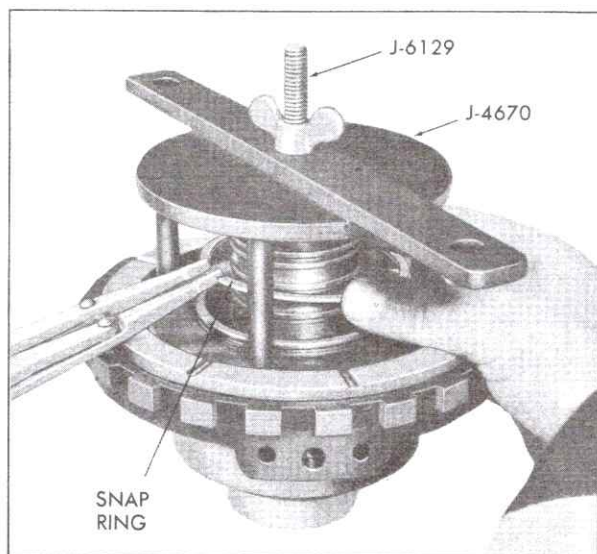

Fig. 7-74 Removing and Installing Intermediate Clutch Piston Snap Ring
2. Using Clutch Spring Compressor, J-4670, and Rear Clutch Spring Compressor, J-6129, Fig. 7-74, compress spring retainer and remove snap ring with Snap Ring Pliers, J-8059 or J-5586.
5. Using Clutch Spring Compressor, J-4670, and Rear Clutch Spring Compressor, J-6129, Fig. 7-74, compress spring retainer, being careful that retainer does not get caught in snap ring groove, and install snap ring with Snap Ring Pliers, J-8059 or J-5586. Remove tools.